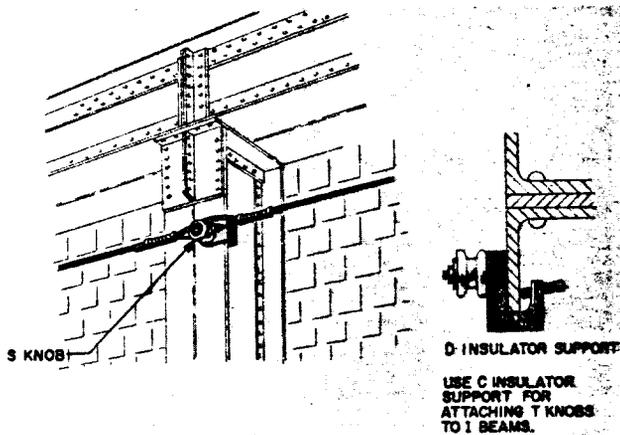

Fig. 11—D Insulator Support and S Knob
- D insulator support (Fig. 11) will accommodate S knobs or B or M bridle rings. It can be attached to steel structures up to 3/4 inch in thickness.